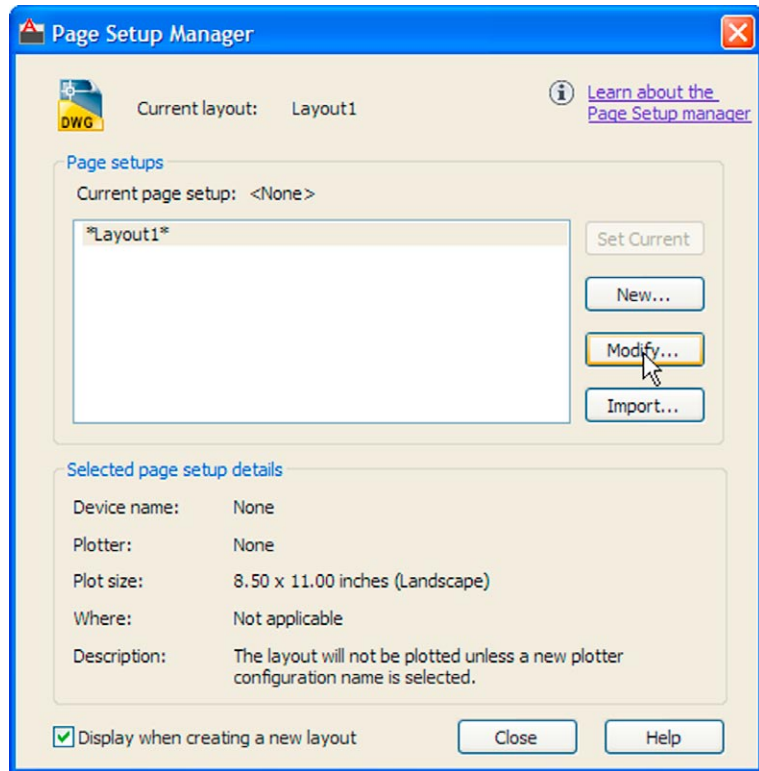
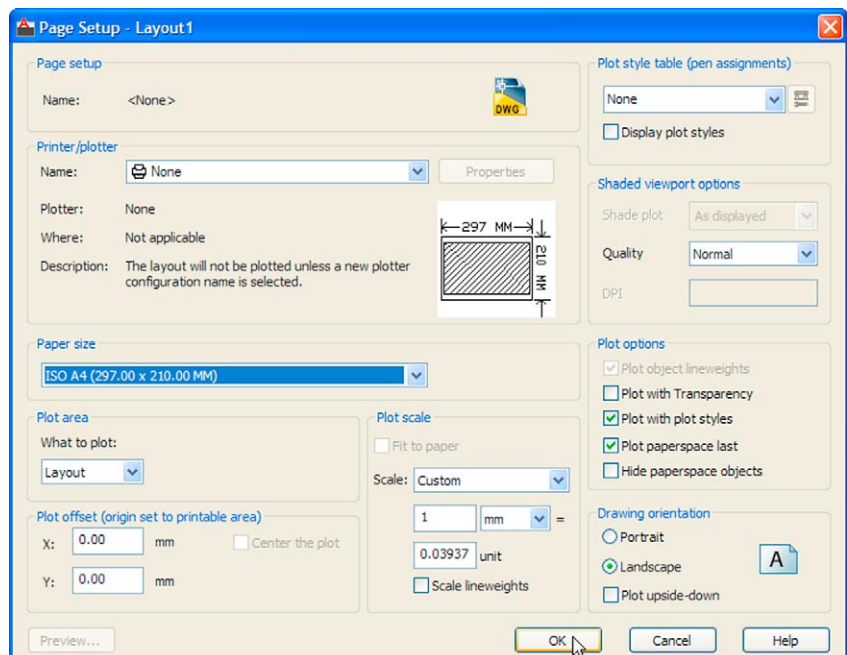

Fig. 19.7 The Page Setup Manager dialog
Fig. 19.8 The Page Setup – Layout1 dialog
3. Click the **MODEL** button in the status bar (Fig. 19.6). The **Page Setup Manager** dialog appears (Fig. 19.7). Click its **Modify...** button and the **Page Setup – Layout1** dialog appears (Fig. 19.8).